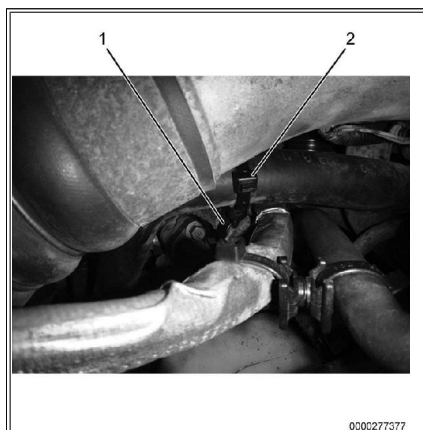

Figure 18: Deaeration Tank Hose.
1. Pull deaeration tank hose (Figure 18, Item 1) towards deaeration tank until it clears turbocharger oil supply tube.
2. Using two tie straps (Figure 18, Item 2), and a swivel saddle, secure deaeration tank hose to oil centrifuge supply line.